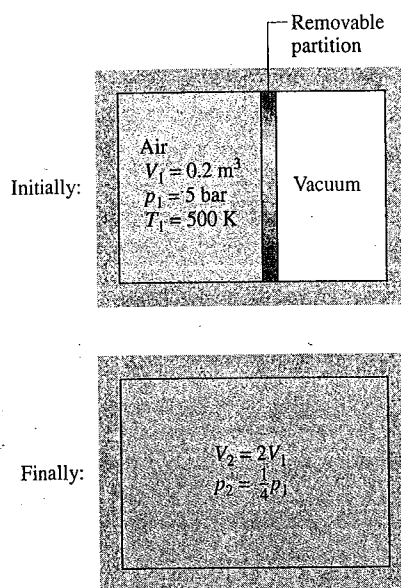

Fig. P3.128
3.128 Air is confined to one side of a rigid container divided by a partition, as shown in Fig. P3.128. The other side is initially evacuated. The air is initially at $p_1 = 5$ bar, $T_1 = 500$ K, and $V_1 = 0.2$ m³. When the partition is removed, the air expands to fill the entire chamber. Measurements show that $V_2 = 2V_1$ and $p_2 = p_1/4$. Assuming the air behaves as an ideal gas, determine (a) the final temperature, in K, and (b) the heat transfer, in kJ.